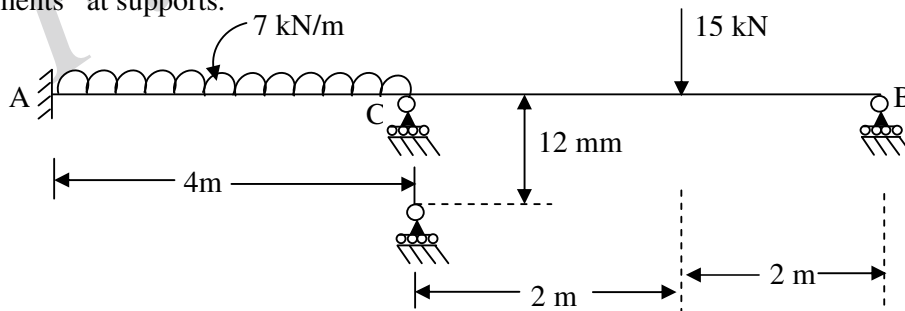

Figure 3
3. A continuous beam has overhangs on both sides as in the Figure 3. Apply three moment equation to determine the support moments. EI is constant throughout.
3. Using Clapeyron's theorem, solve the problem of the continuous beam shown in figure 3. EI is constant throughout.
3. The support **C** of a continuous beam shown in Figure 3, has settled by 12mm. Find the moments at supports.